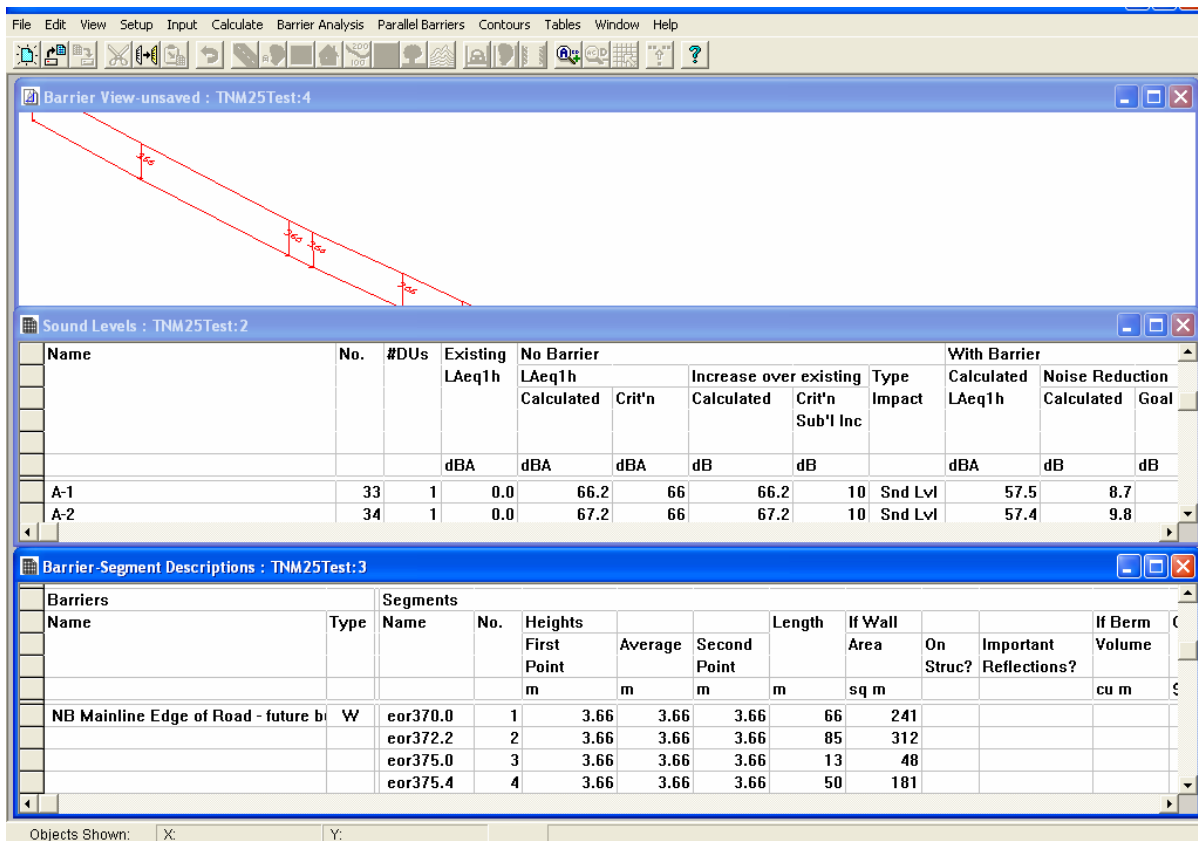

Figure 53. Graphical view of a barrier analysis.
Open a Sound Levels table and a Barrier Segment Descriptions table (see Section 13.2). To prepare the tables for easier viewing: (1) in the Sound Levels table, hide superfluous rows so that only the relevant barrier segment rows are displayed (see Section 13.4); and (2) in the Barrier Segment Descriptions table, hide all rows except the rows with "cost" in them. Tile the windows horizontally (see Section 14.3) with the perspective view for easier viewing. Zoom-in to a desired area for analysis (see Section 6.3). Rotate the view until the barriers' heights can be seen (see Section 6.7). The resultant TNM screen is shown in Figure 53.